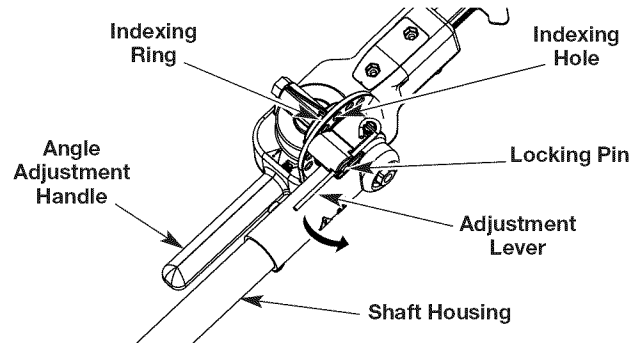

Fig. 4
1. Hold the angle adjustment handle (Fig. 4) with the left hand. Hold the shaft housing (Fig. 4) with the right hand.
2. With the right thumb, push the adjustment lever (Fig. 4) away from the indexing ring to unseat the locking pin (Fig. 4).
4. Align the locking pin with the desired indexing hole in the indexing ring (Fig. 4).